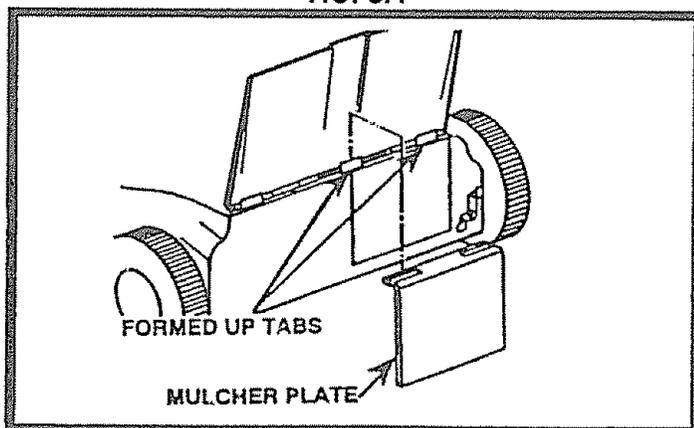

FIG. 5B
- Open rear door, remove mulcher plate and rotate latch counterclockwise to its original position (See Fig. 5B).